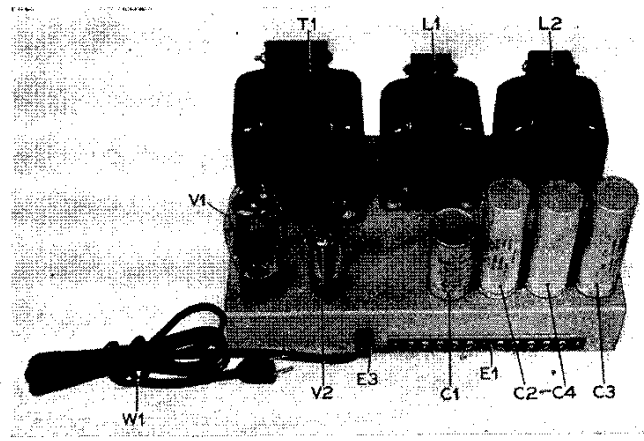

FIG. 6—Top view of power supply.
(3) Connect the input of the vertical amplifier of the oscilloscope to the PHONO connections on terminal strip E3 (Fig. 6) on the rear skirt of the Receiver chassis. The "high" terminal is the second one from the edge of the strip; the first screw is connected to the chassis. Set the frequency-modulated signal generator to approximately 465 kc and connect its output to the control grid cap of the 1st detector (V3) through a fixed capacitor (100 mmf or larger). With the CRYSTAL SELECTIVITY switch at OFF, readjust the signal generator frequency to produce the conventional single-peaked resonance curve on the screen of the oscilloscope. Then turn the CRYSTAL SELECTIVITY switch to position 1. If the grid coil (L27) is correctly tuned the image on the oscilloscope screen will remain symmetrical but will be only about two-thirds as wide as before, indicating an increase in selectivity. The oscilloscope image is also affected by the PHASING control, maximum symmetry occurring at or very near the arrow on its scale. Therefore, when tuning L27, rock the PHASING control back and forth at the same time to secure the best adjustment.